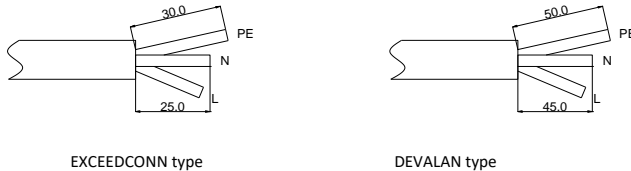

FIG. 7-7 Adjust the Cable Length
1) Strip the cable's jacket, and then adjust the relative length of L, N and PE cables, to make the length of PE cable is at least 5mm longer than L and N ones, as per FIG. 7-7.